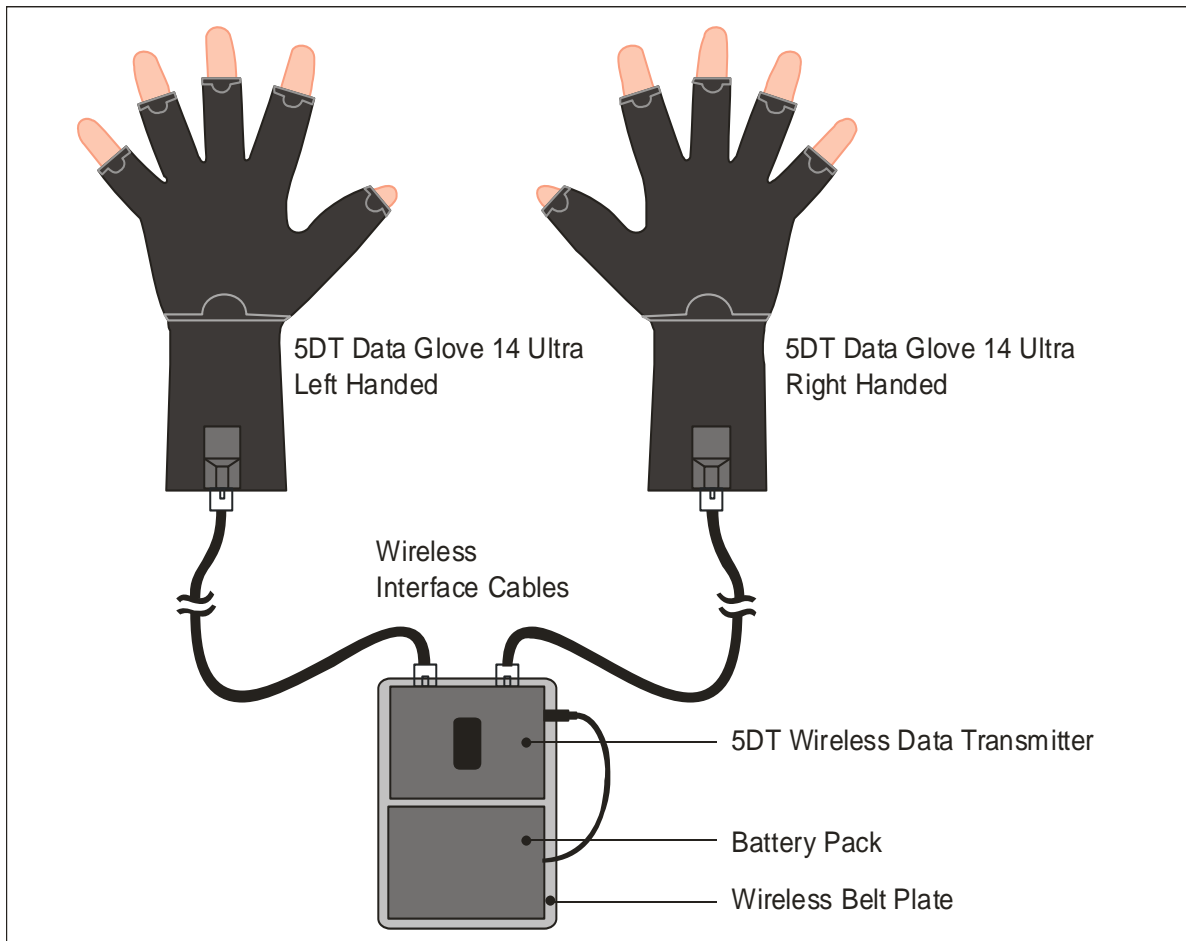

Figure 4 – Connecting the Wireless Kit – Glove Side
Plug both gloves (1) & (2) into the transmitter (3) using the two wireless interface cables (9) as in Figure 4.